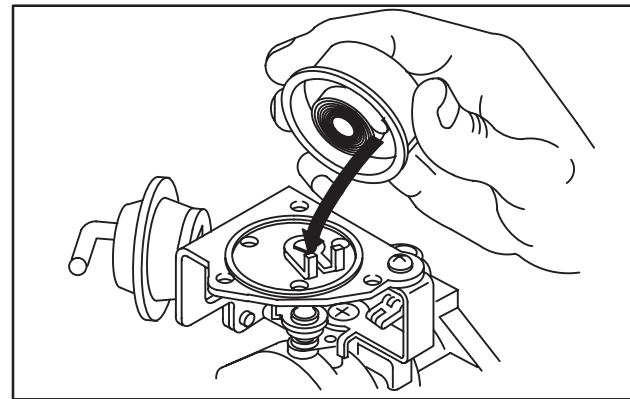

Fig. 45 – Installing Thermostat
7. Install thermostat with new gasket, Fig. 45.